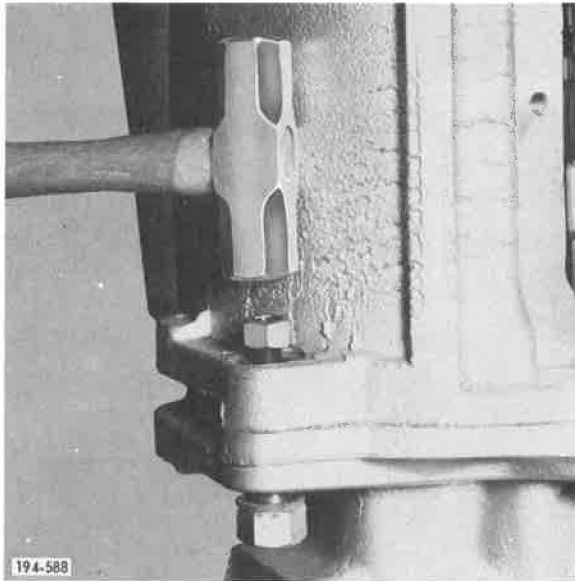

Figure 42. Removing Dowel Bolt
42. With nuts still engaging dowel bolt threads, drive dowel bolts out. See Figure 42.